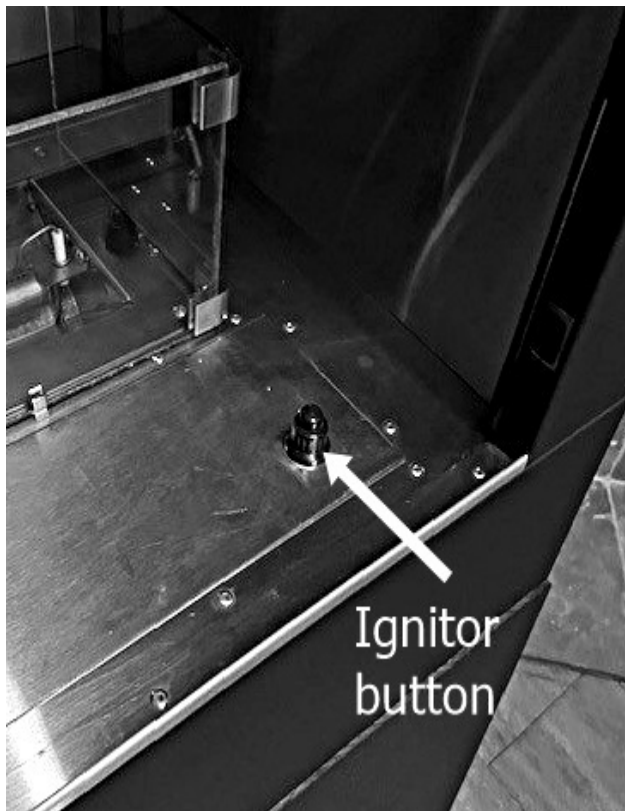

Figure 1
2. Push and hold the button on the manual Piezo ignitor(Fig 1) and ensure sparking is occurring at the probe inside the Fireplace